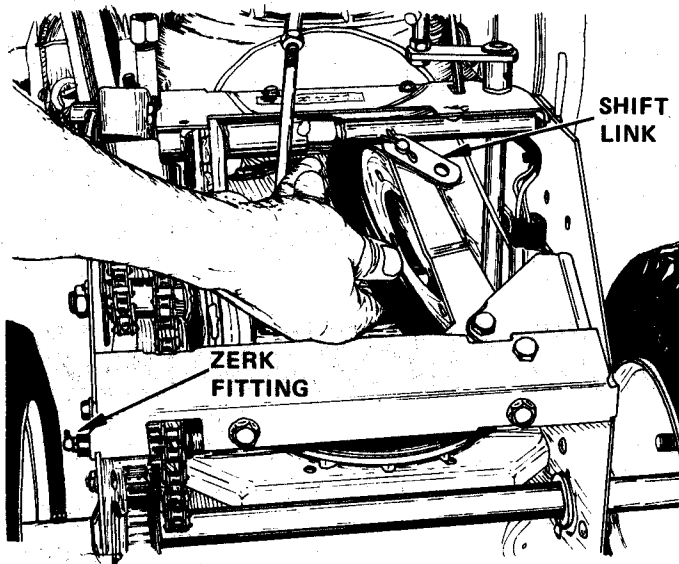

FIGURE 12
2. Place the speed selector in FIRST position. Depress the traction clutch lever to hold the friction wheel while the five bolts securing the friction wheel to the hub are loosened. Remove the five bolts, shift to THIRD position and disconnect the shift link. See Figure 12.